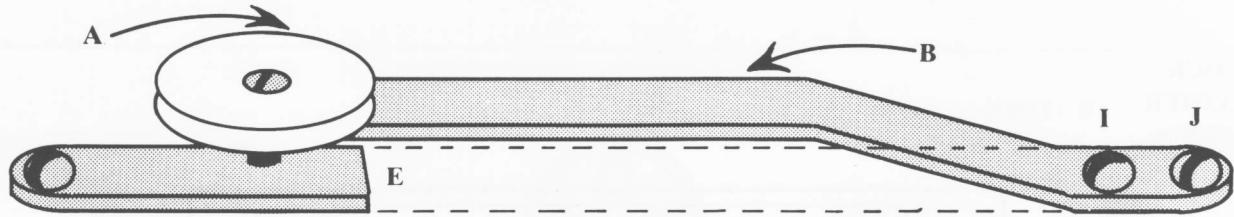
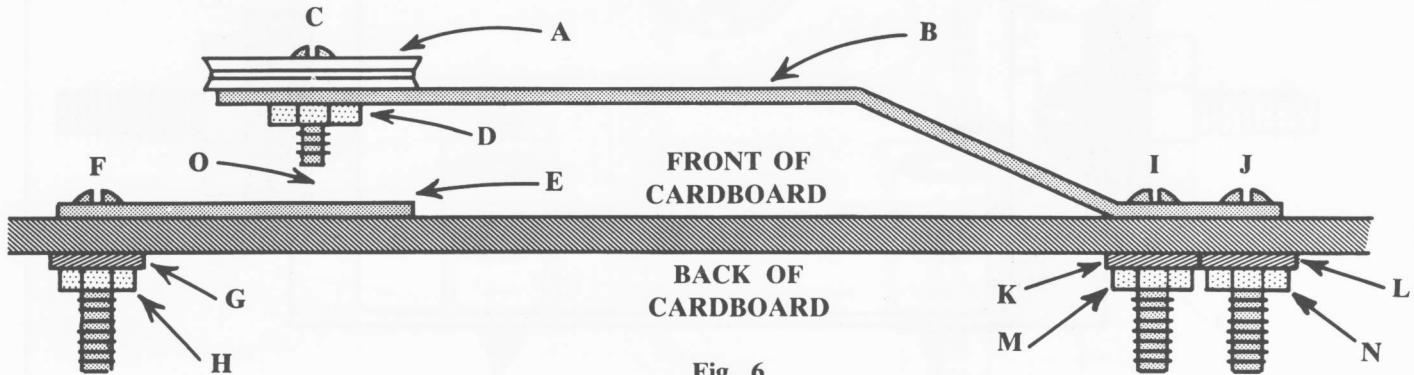

Fig. 5
Fig. 6
6) Locate the white push button disk (B in Fig. 1). Attach the disk (A in Figs. 5 and 6) to the push button strip (B in Figs. 5 and 6), using a #2 bolt (C in Fig. 6) and its nut (D). Tighten firmly with screwdriver and pliers or wrench.
7) The part that you have just made is to be attached to the push button section of the computer box as shown at C in Fig. 1. But first a contact strip must be attached, as shown at D in Fig. 1. The entire assembly of the push button is shown in Figs. 5 and 6. Note the flat brass strip at E in Fig. 5. Locate this strip among your parts. Place it on the part of the computer box as shown at D in Fig. 1. Insert a #6 bolt through the hole in the strip and the hole in computer box. Add a lock washer (G in Fig. 6) and nut (H) to the bolt (F) at the back of the computer box. Be sure that the strip lines up properly, as shown at E in Fig. 5. Then tighten the nut firmly.
Now attach the push button (B in Figs. 5 and 6) to the board using two bolts (I and J), lock washers (K and L), and two nuts (M and N). Tighten both firmly.
Check to see that there is an open gap (O in Fig. 6) between the bolt (C) of the push button and the strip (E). If not, you will have to bend strip B slightly. A gap of about  $\frac{1}{8}$ " is desirable.